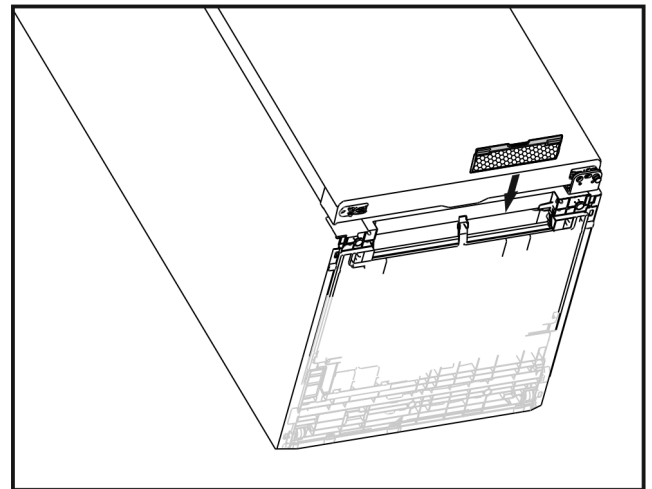

Fig. 4
- Slide the mosquito screen in as shown in the diagram (see Fig. 4) .